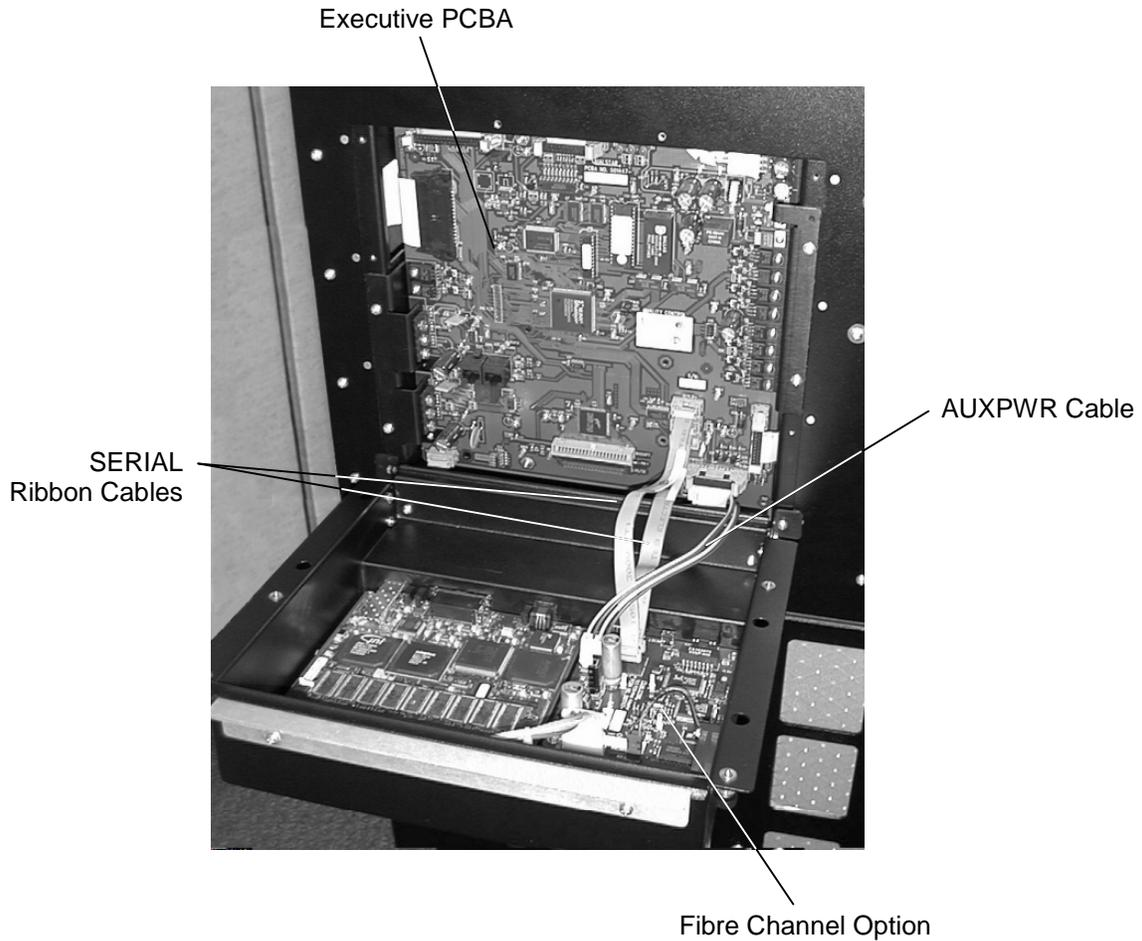
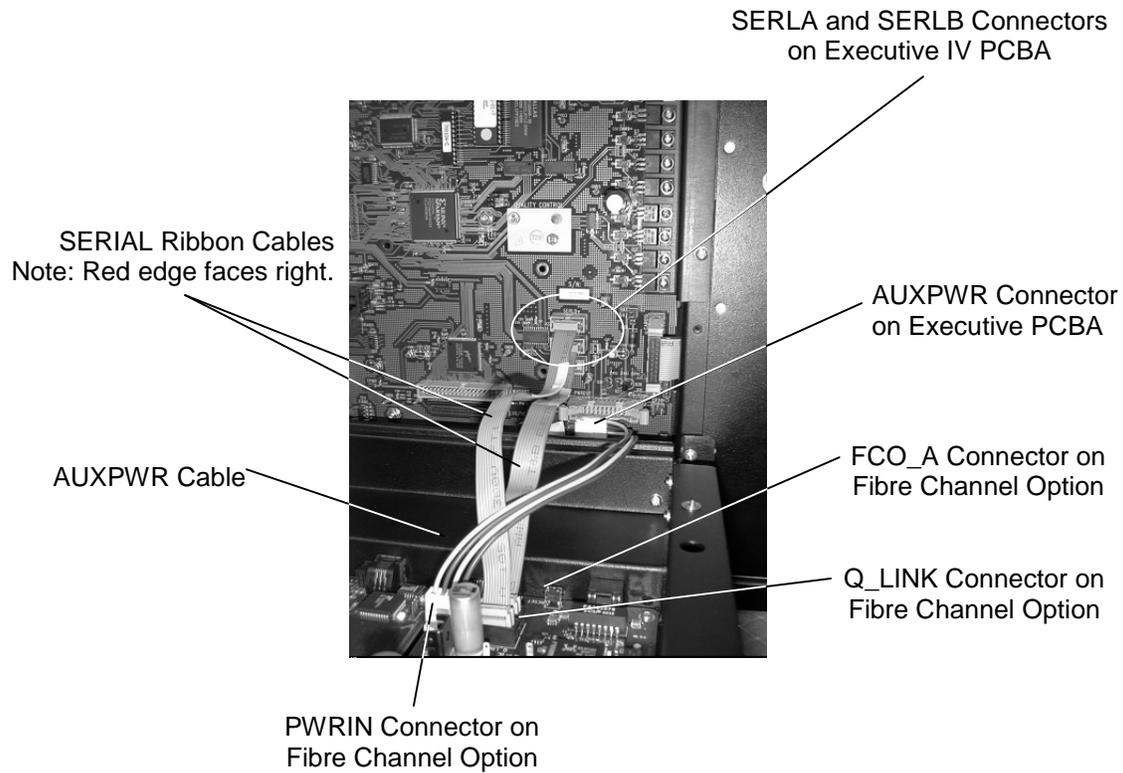

Figure 4-11 Executive PCBA and Fibre Channel Option (Executive IV PCBA Shown)
Figure 4-13 Detail of Connections (Executive IV PCBA Shown)
7. Connect the AUXPWR cable to the AUXPWR connector on the Executive PCBA and to the PWRIN connector on the Fibre Channel Option. See Figure 4-11 and Figure 4-13.
9. Make sure that the Red edge of the ribbon cable faces to the right side when the cable is installed. Connect the SERIAL ribbon cable to the SERIAL connector on Executive III PCBA's or to the SERLA connector on Executive IV PCBA's. Route the SERIAL cable under the AUXPWR cable as shown in Figure 4-11 and connect it to the FCO_A connector on the FCO (Figure 4-13).
10. For those FCOs that also have Q-Link, connect the second SERIAL ribbon cable to the SERLB connector on the Executive IV PCBA. Route the second SERIAL cable under the AUXPWR cable as shown in Figure 4-11 and connect it to the Q_LINK connector on the FCO (Figure 4-13).